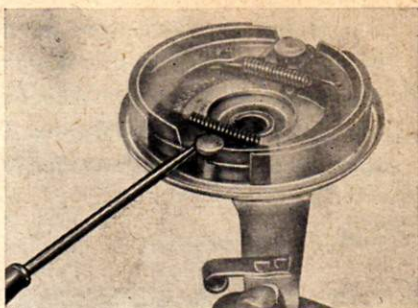

Fig. 78 Removing brake shoe
3. Insert a screwdriver between brake shoe and brake cam, as illustrated in fig. 78, and lift brake shoe from the brake cam groove.